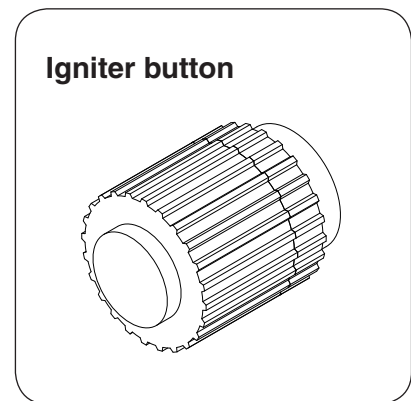

Fig. 33-1
3. Press and hold the electronic igniter button (see Fig. 33-1). The igniter will begin to spark with a rapid clicking sound.